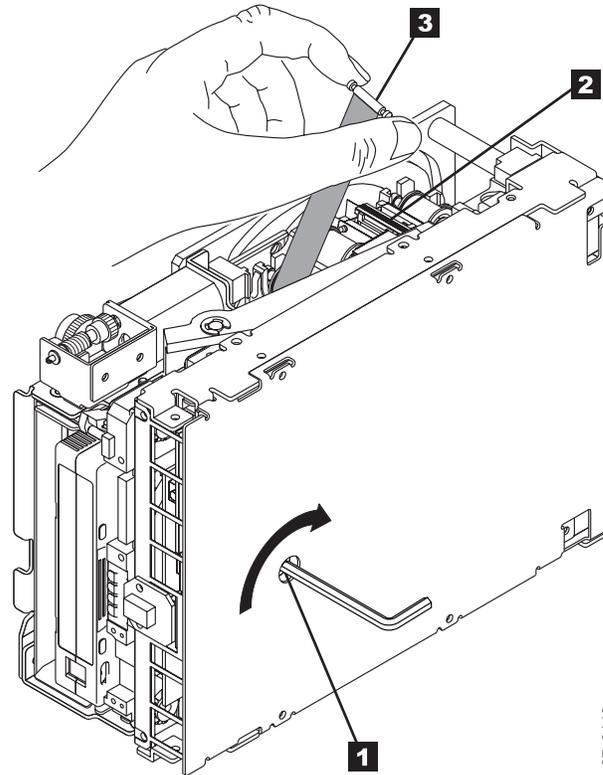

Figure 21. Rewinding the leader pin into the tape cartridge
5. Place the tape drive so that the front faces you, then tilt it on its left side (see Figure 21).
6. At the bottom of the drive, locate the access hole (**1** in Figure 21).
8. With clean needle-nose pliers, grasp the end of the leader pin and pull it out of the cartridge so that you can grip it with your fingers (see **3** in Figure 21).